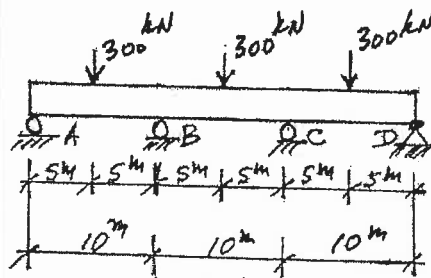

FIGURE 4
- (14+6) 6. Use the Limit States Design Method to design the continuous 3-span reinforced concrete beam, ABCD, in Figure 4. The requirements for both flexure and shear must be satisfied.